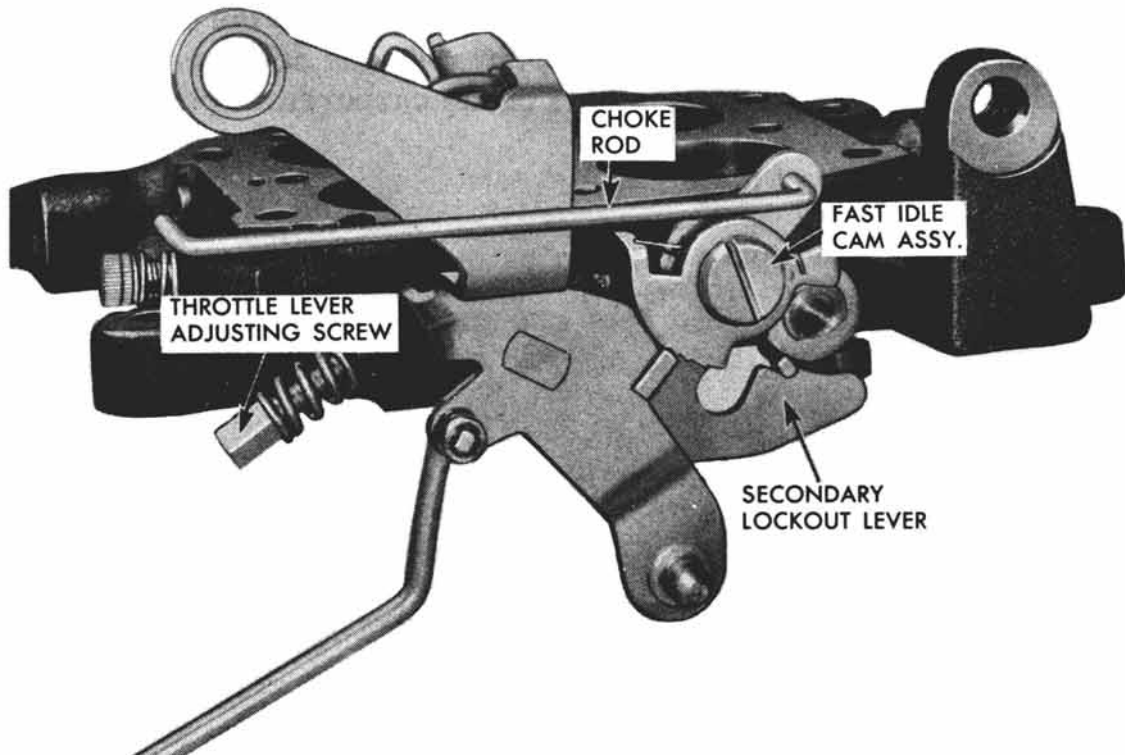

Fig. 32-C Fast Idle Cam and Secondary Lockout Lever Installation
10. Position secondary lockout lever (Fig. 32-C) against boss of throttle flange and secure with retaining screw in fast idle cam assembly. Check that levers and cam operate freely after installation.
11. Install choke rod (Fig. 32-C) in fast idle cam and secure with spring retainer.
12. Install throttle lever adjusting screw, spring and washer (Fig. 32-C).